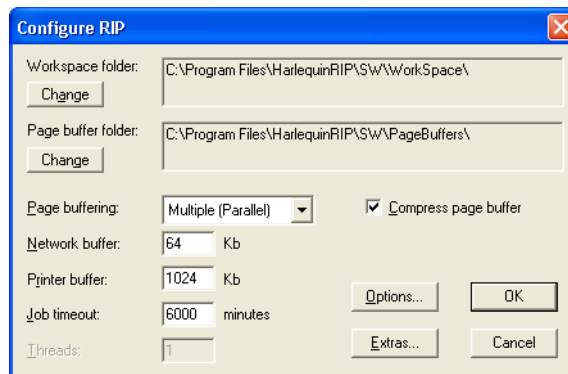

Figure 2.1 Configure RIP dialog
1. Start the RIP and select **Harlequin RIP > Configure RIP**, to open the Configure RIP dialog (Figure 2.1).
1. In the RIP, select **Harlequin RIP > Configure RIP**, to open the Configure RIP dialog (Figure 2.1).